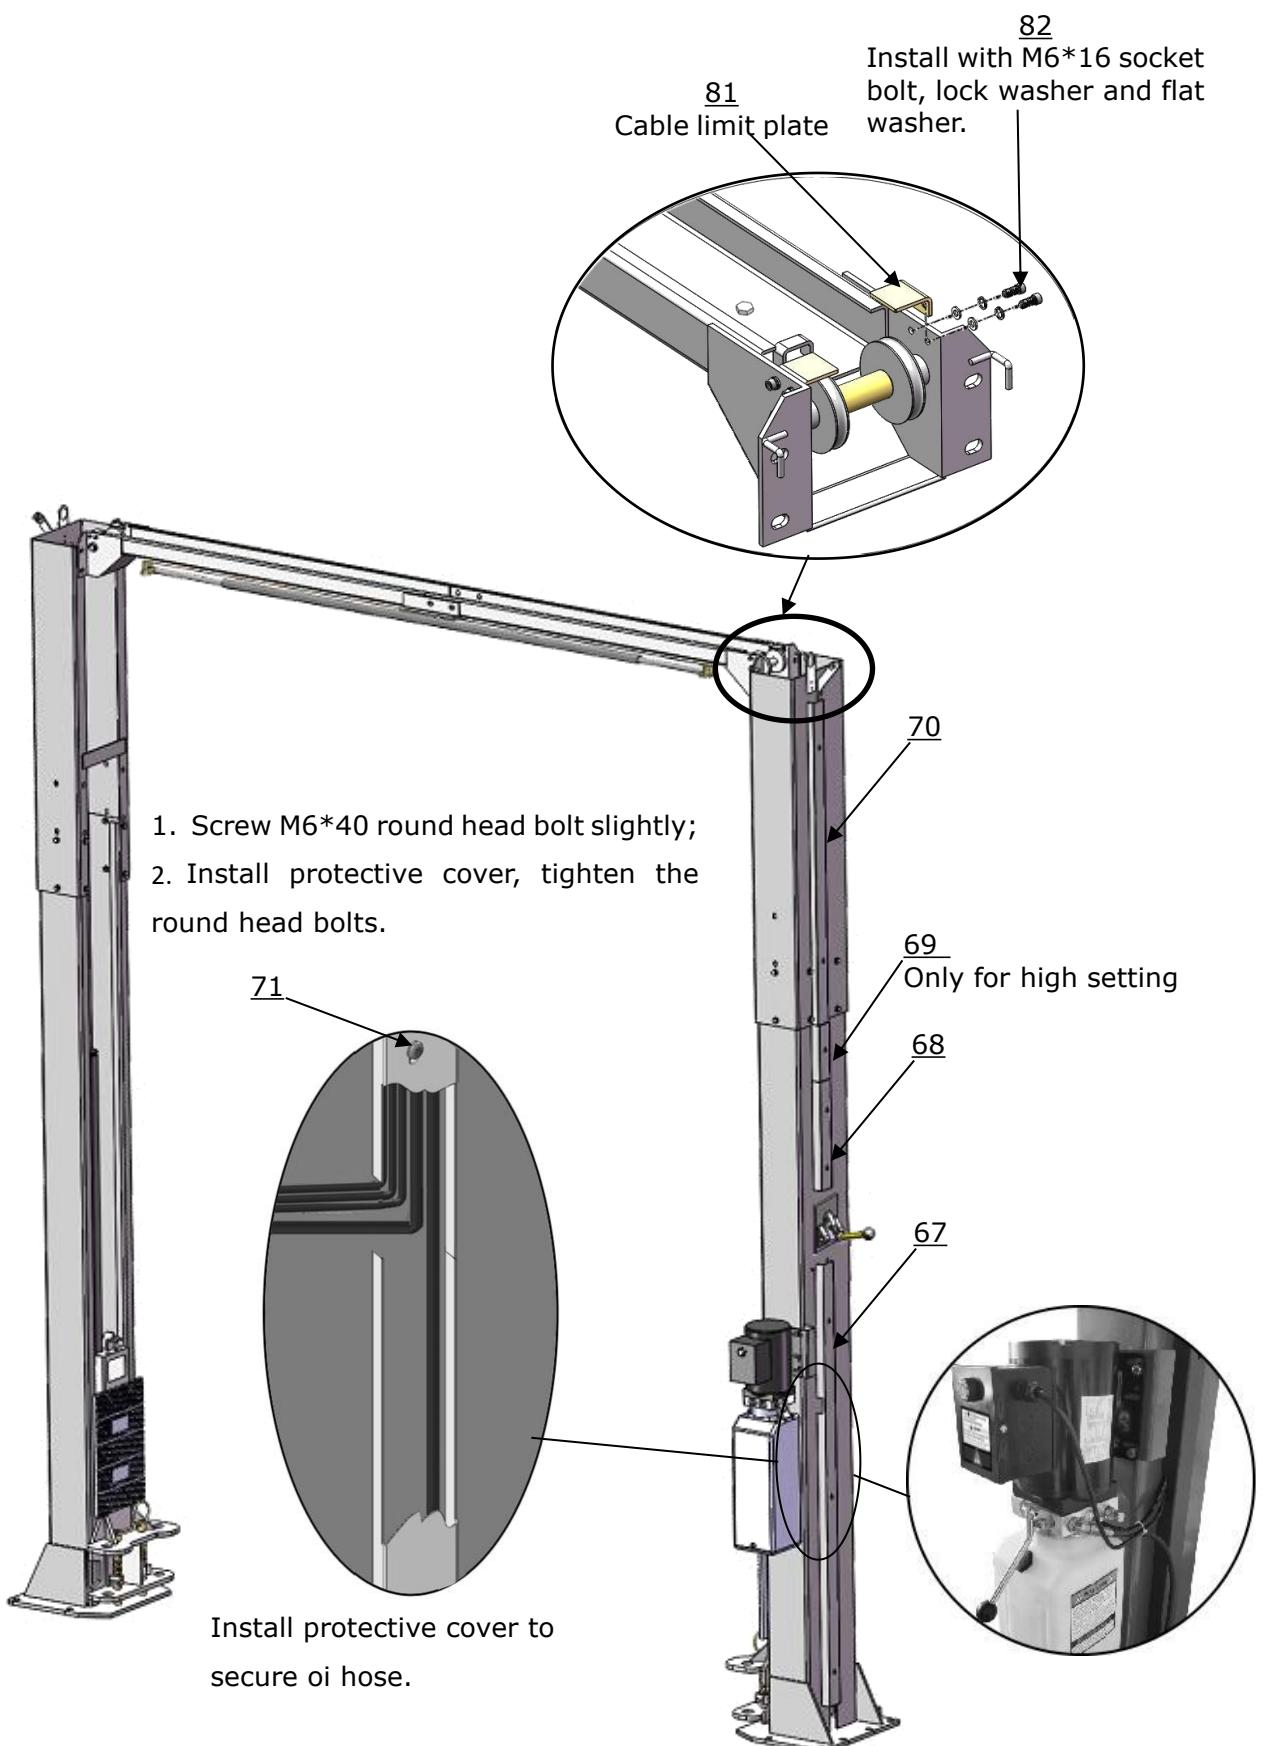

Fig.30
M. Install protective cover and cable limit plate. (Fig.30)